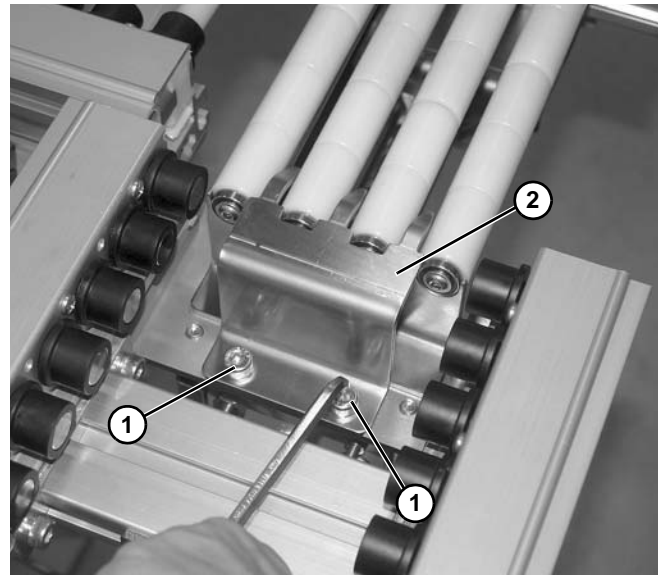

Figure 164
5. Remove two screws (**Figure 164, item 1**) securing plate (**Figure 164, item 2**) on assembly.